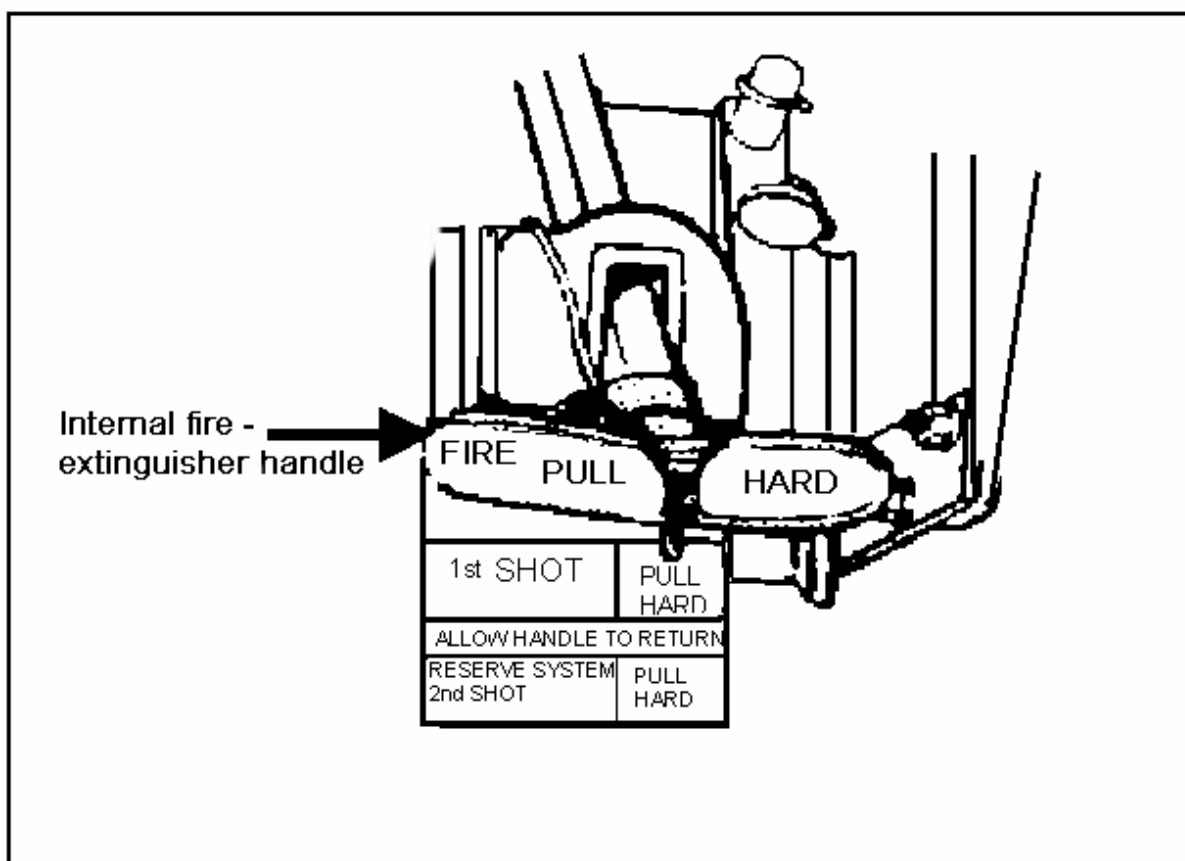

Figure 052-225-1216-1
2. Pull hard on the internal fire-extinguisher handle, and let it go (Figure 052-225-1216-1).